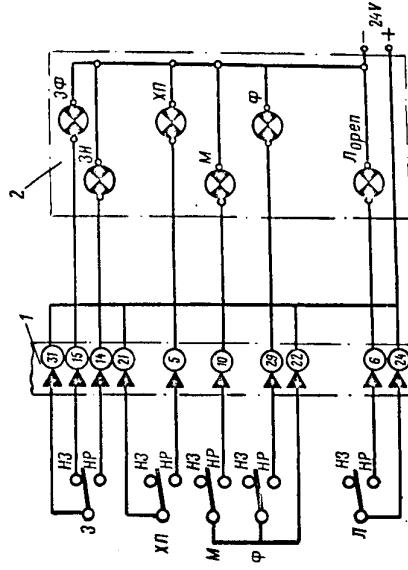

FIG.13. Oil Unit Reducing Valve
1. Unlock the shank of the reducing valve spring adjusting screw (Fig.13).